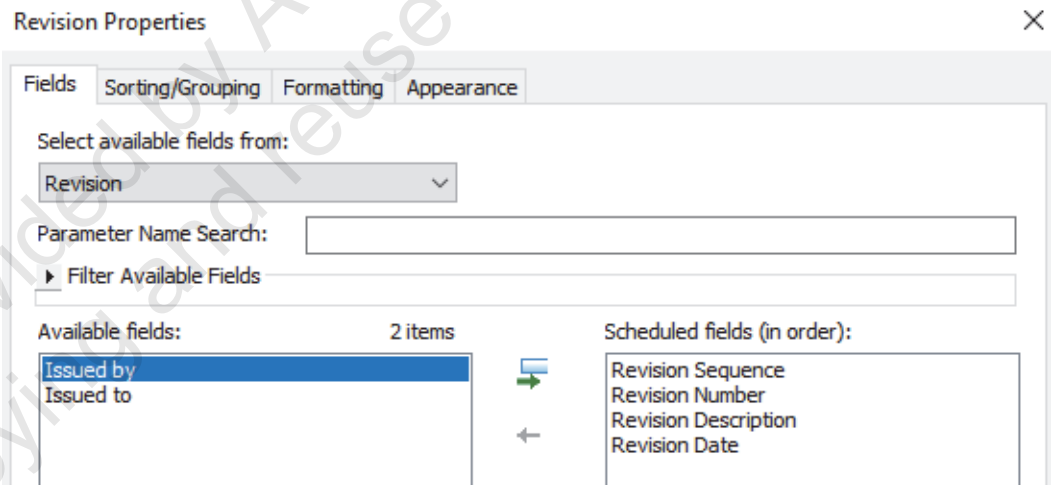

Figure 1–99
2. In the Revision Properties dialog box>*Fields* tab, set up the fields as shown in Figure 1–99.